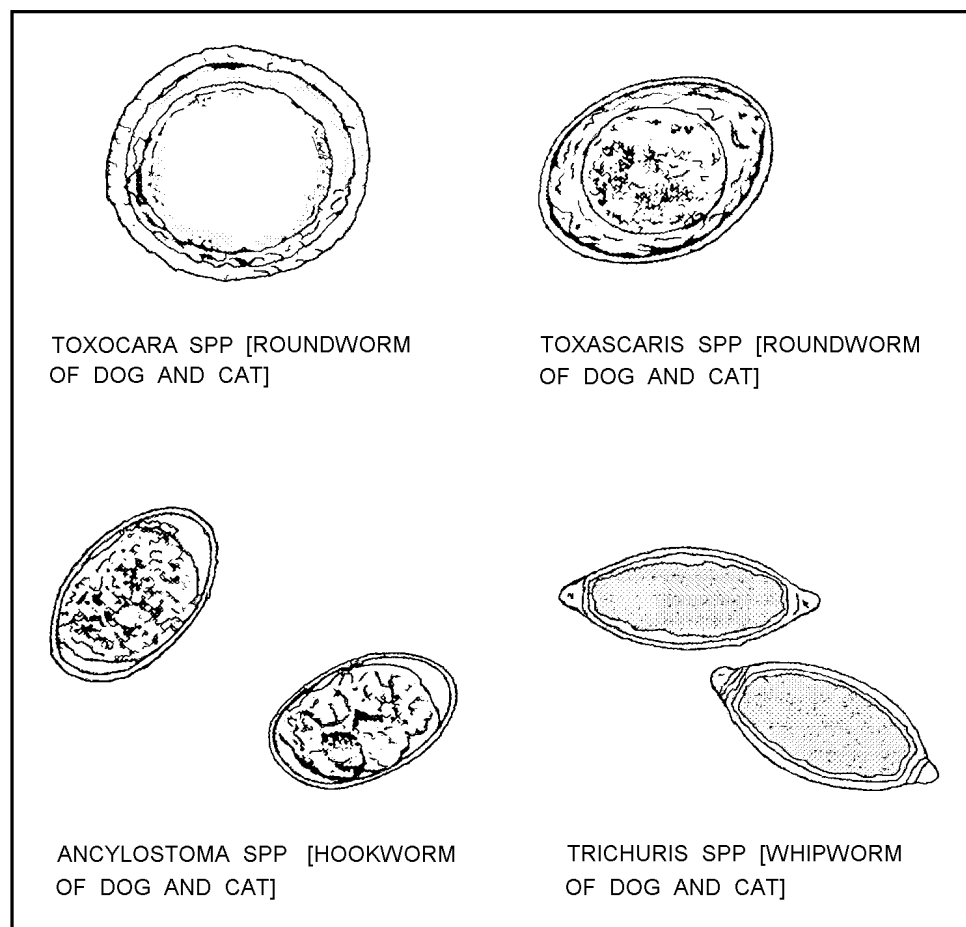

Figure 3-6
- (1) Start in one corner of the slide.
- (2) Using the stage adjustment knobs, scan the slide from one side to the other.
6. Identify any parasite ova found by using the 10X objective. (Refer to Figure 3-6.)